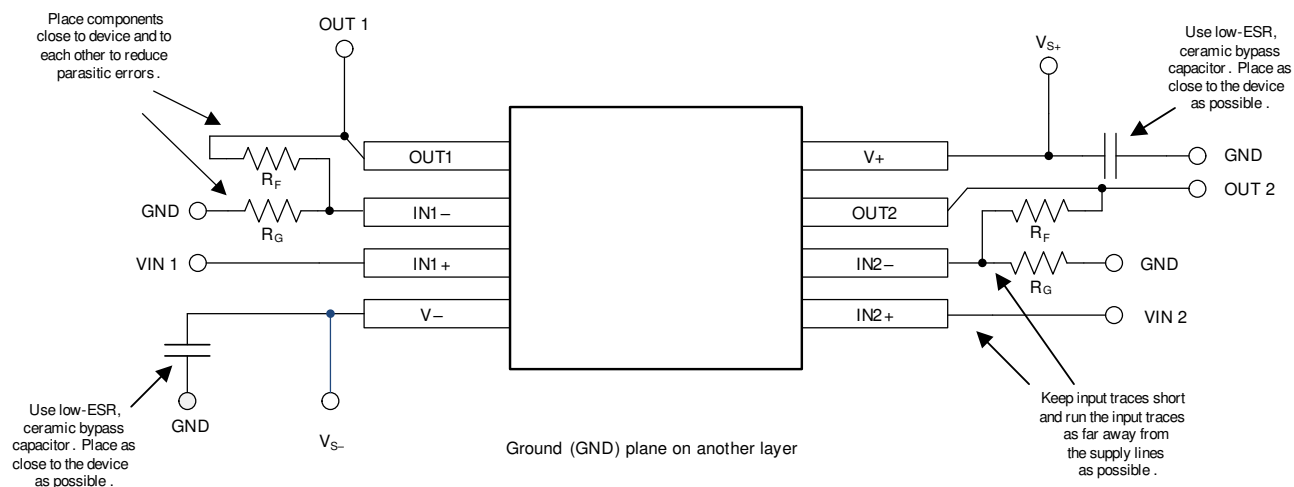

Figure 42. Layout Example
- Place the external components as close to the device as possible. As illustrated in Figure 42, keeping R_F and R_G close to the inverting input minimizes parasitic capacitance on the inverting input.